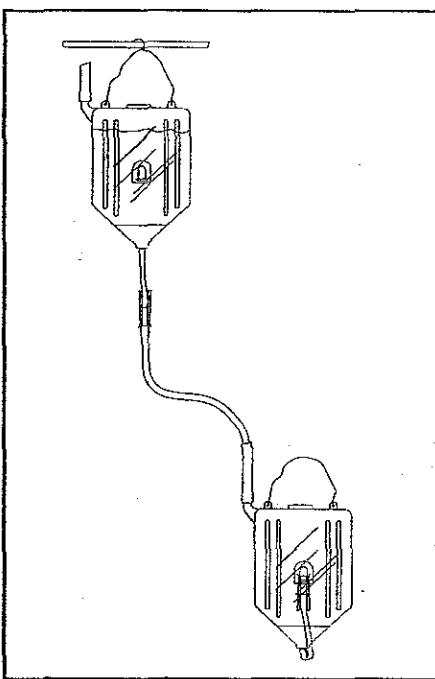

Figure 5
4. Insert the plastic molded Control Fit connector at the end of the drain tube on the filled container into the soft plastic tubing on the second container extending from the Monitor (see Figure 5).